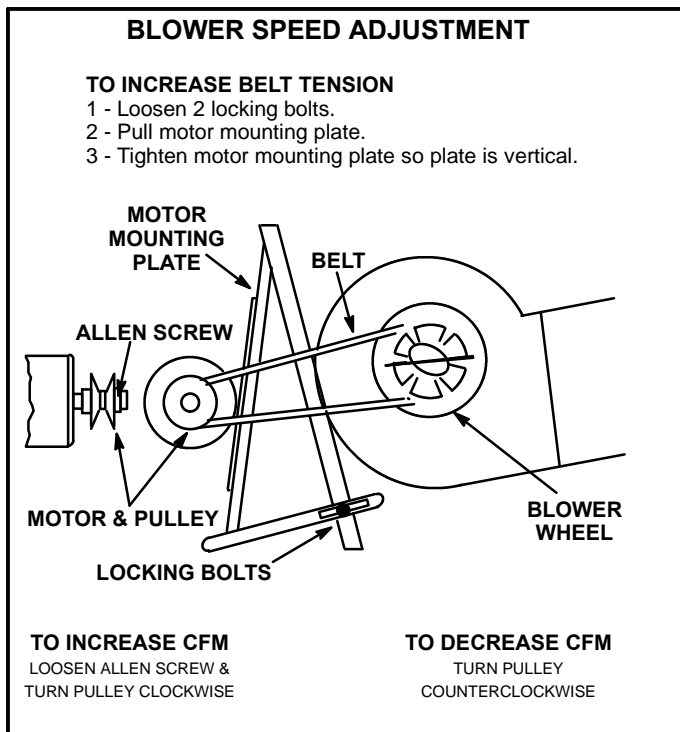

FIGURE 17
- The CFM can be adjusted by changing the belt tension. See figure 17. Follow the blower speed change instructions below.
Maximum life and wear can be obtained from belts only if proper pulley alignment and belt tension are maintained. Tension new belt after a 24-48 hour period of operation. This will allow belt to stretch and seat grooves. To increase belt tension, loosen locking bolt and pull mounting plate. Tighten bolt so that the motor mounting plate is in a vertical position. See figure 17.